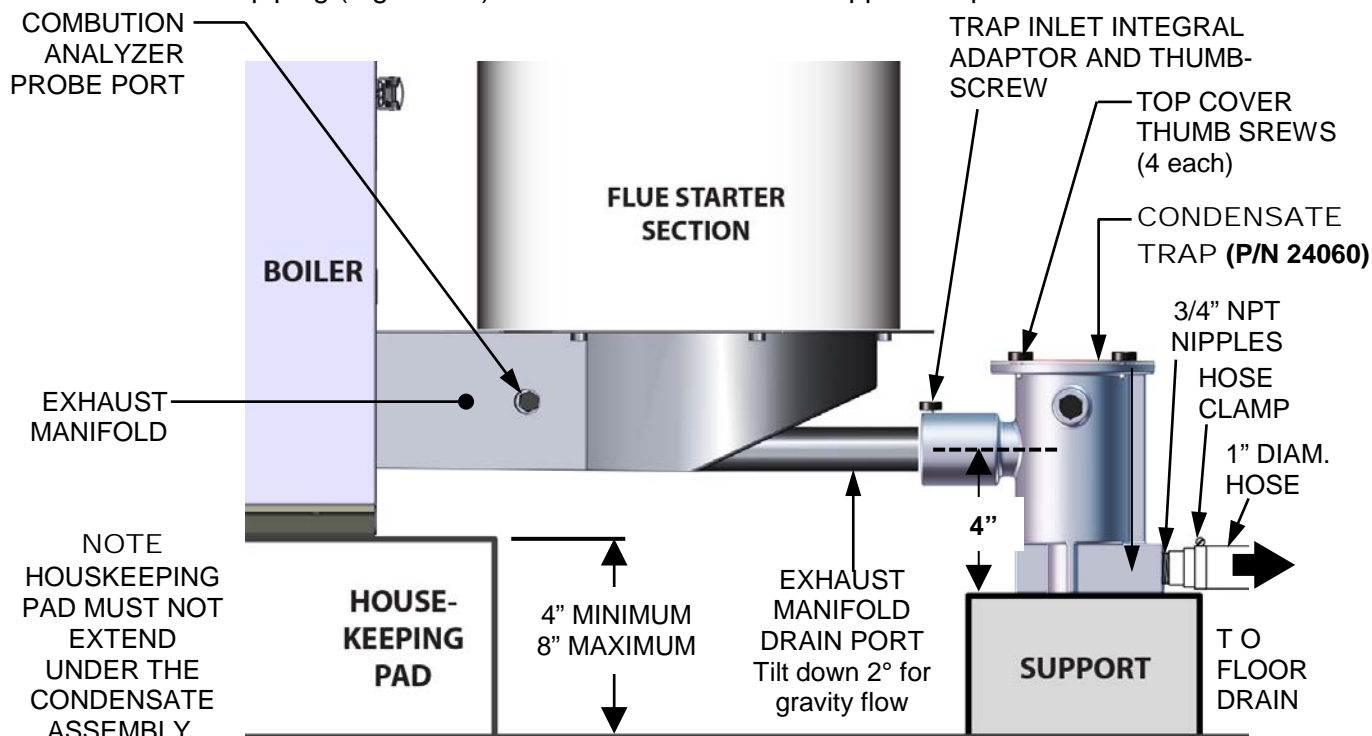

Figure 2-7: Sample Condensate Trap Installation
A sample condensate trap installation is shown in Figure 2-7. However, the actual installation details for the trap will vary depending on the available clearances, housekeeping pad height/dimensions and other prevailing conditions at the site. The following general guidelines must be observed to ensure proper condensate drainage:
- The condensate trap inlet (Figure 2-7) must be level with, or lower than the exhaust manifold drain port.